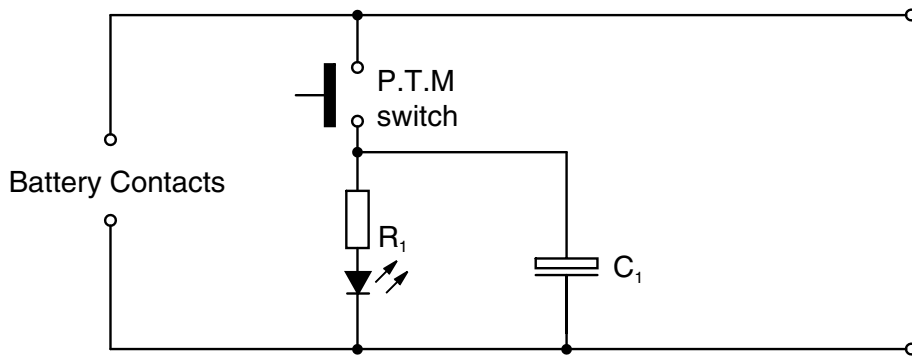

Fig. 11
- (e) An LED is to be used as a battery test indicator for the trailer lighting system. A circuit diagram is shown in Fig. 11.
- (i) State the type of switch shown in the circuit diagram in Fig. 11.
- (ii) State the purpose of  $R_1$  in the circuit diagram in Fig. 11.
- (iii) Explain the purpose of the capacitor  $C_1$  in the circuit diagram shown in Fig. 11.